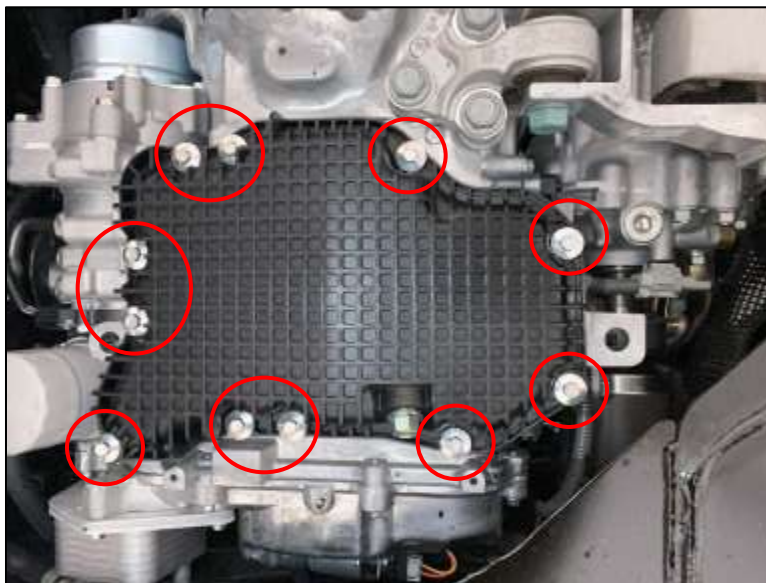

Figure 2
5. Once the Oil has finished draining, remove all (11) eleven OE Bolts to remove the Oil Pan. Be careful as the Oil Pan still contains oil and can spill. Retain this hardware as it will be reused. *Figure 2.*